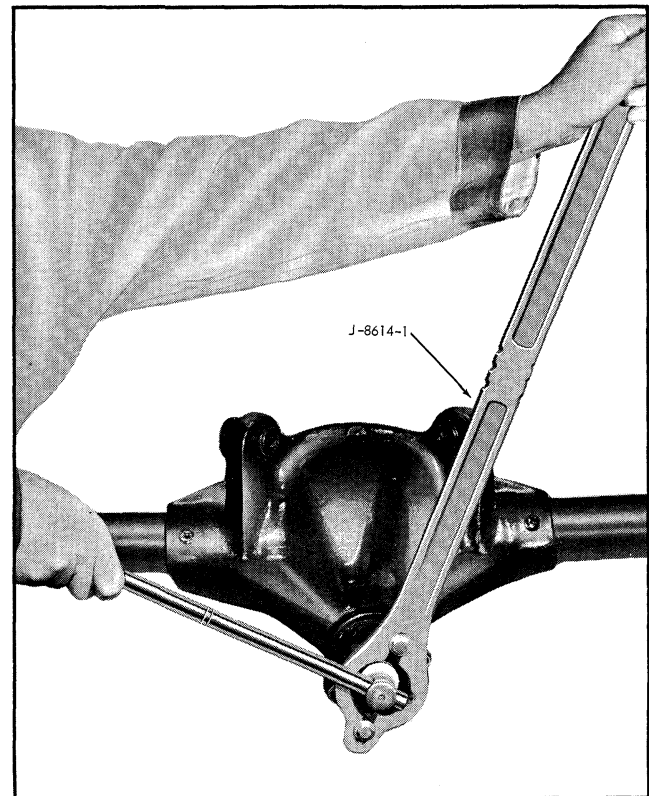

Fig. 4-30 Removing Pinion Nut
2. Install holder J-8614-01 on pinion flange by using two 5/16" bolts with flat washers. Remove pinion nut and washer. See Fig. 4-30.